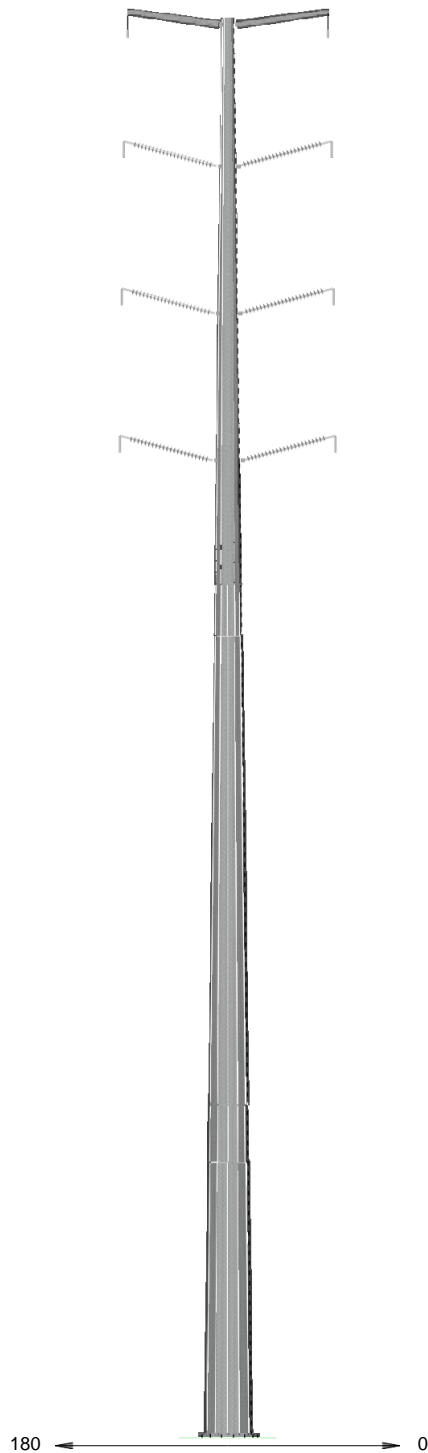

FIGURE G-5
- Figure G-5: Single-Circuit 230 kV Single-Pole, Tangent, Vertical Configuration with Horizontal Post Insulator